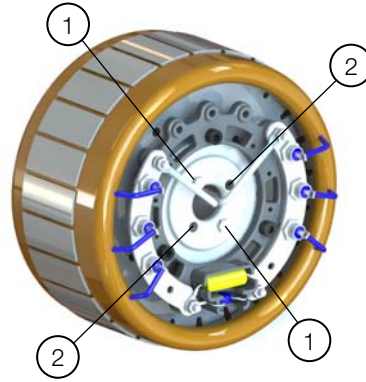

Figure 14.22: Fastening and holes to withdraw the exciter rotor
- Remove the exciter rotor. Use the fixing screws to withdraw the exciter rotor, through the holes indicated in Figure 14.22, and withdraw the current exciter rotor bushing;
Key of Figure 14.22: